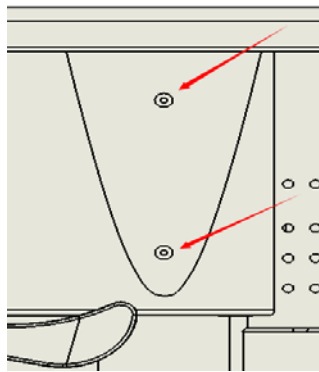

Figure 6
Step 7 First need the machine head positioning. Light shaking machine head, by positioning holes on the column can be seen through the opposite side of the head positioning hole (see opposite the light coming through, if you do not see the light coming through, you need to rotate the head, and slowly positioning until the light came through). Keeping the head does not move, respectively, with two tapered head screws M5 * 8 screwed to the lower head positioning holes, one on each side, with a tapered head screws 2 M5 * 12 head is screwed to the upper positioning holes, one on each side It can be a little tight. Figure 6